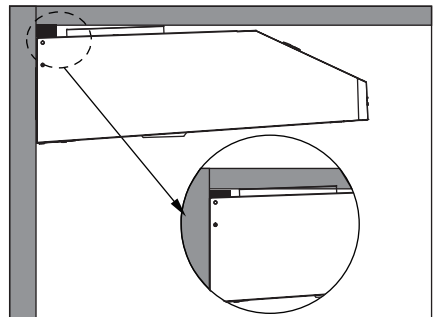

Fig 2
2. Installation Heights (Fig.2)
4. Remove bottom panel from hood using a Philips head screwdriver to remove each of the (5) screws.
5. Stick the two round rubber stands on the sides of hood's top. (see Fig 2)
6. Install (4) wood screws to cabinet bottom. These screws will be used to secure the hood to the cabinet.
7. Lift hood onto screws located on cabinet bottom and lock into place. Make sure all (4) key-holes cover the screws. Tighten each screw to secure hood to cabinet.